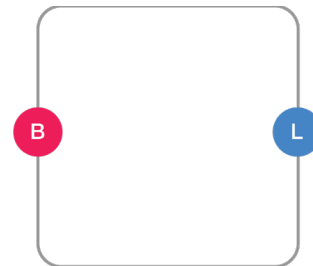

Figure 1.1. Icebreaker circuit
- Put the ropes on the ground as shown in figure 1.1. These ropes will represent the electrical circuit.
- Choose a student who will take the position of the pink dot (B). This student will represent the battery and will have the 8 coins at the start.
- Choose a student who will take the position of the blue dot (L). This student will represent a LED.